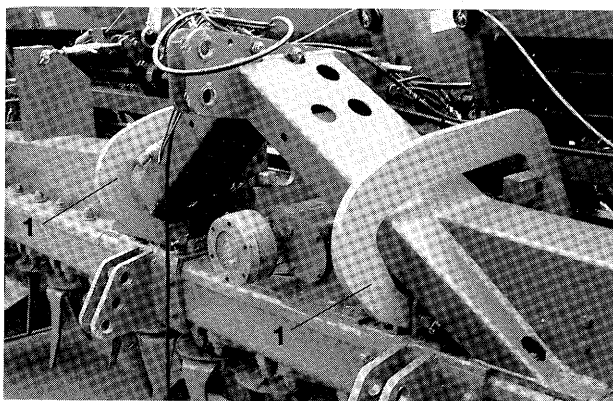

Fig. 48
- 2 carrying arms in the machine's centre (see Fig. 48/1)